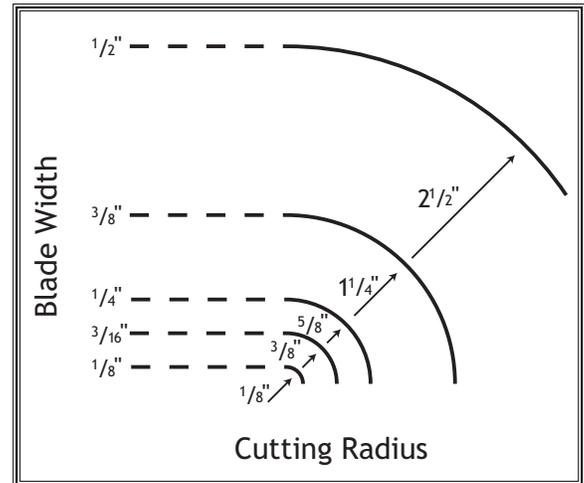

Figure 60. Blade width cutting radii.
- **Curve Cutting:** Use the chart in **Figure 60** to determine the correct blade for curve cutting. Determine the smallest radius curve that will be cut on your workpiece and use the corresponding blade width.